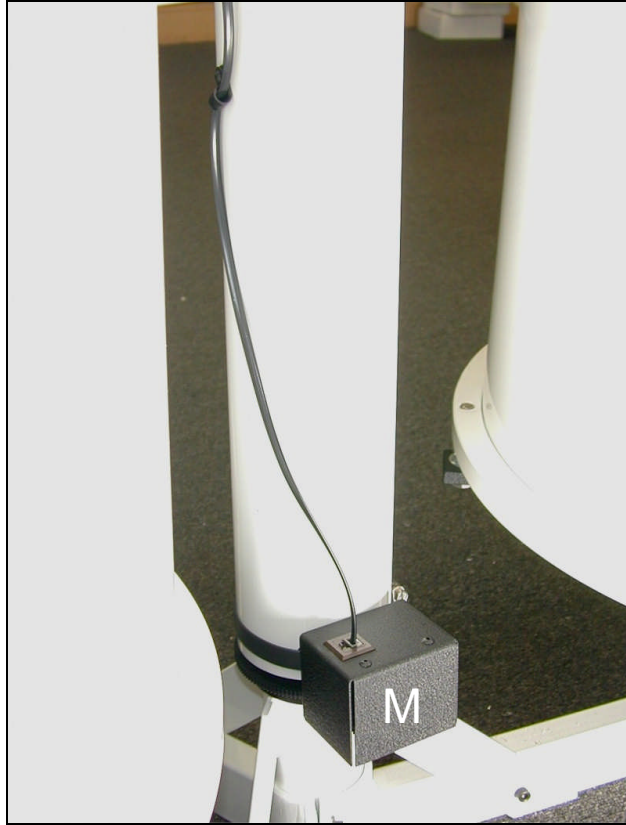

Figure 11
The altitude and azimuth encoder cables are wrapped around the centerpiece as shown in Figure 2. The short cable goes to the altitude encoder located on the right side of the altitude bolt. The long cable goes through a guide clip and is routed down the pier and into the azimuth encoder (M) at the bottom of the pier (Figure 11).